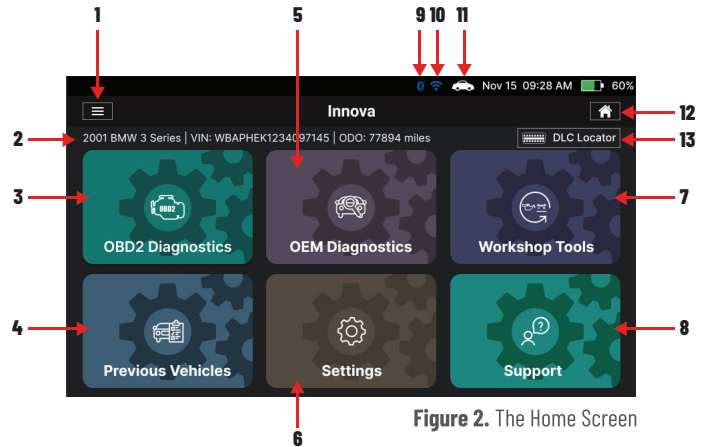

Figure 2. The Home Screen
See Figure 2 for the explanation of items 1 through 13, below: